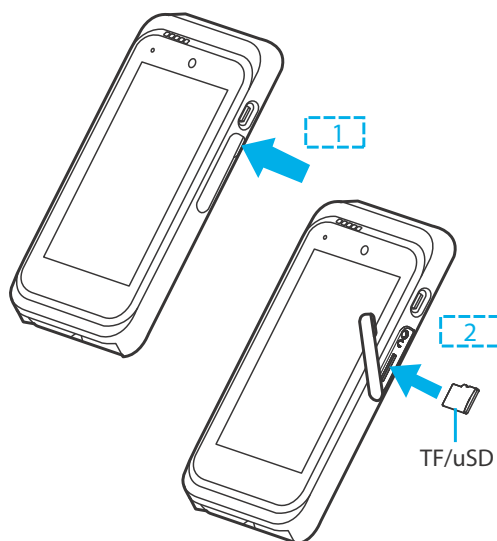

Figure 3 TF Slots
- 2 Release the cover step (1) as shown in Figure 3.
- 3 Insert the card step (2) into the slot as shown in Figure 3.